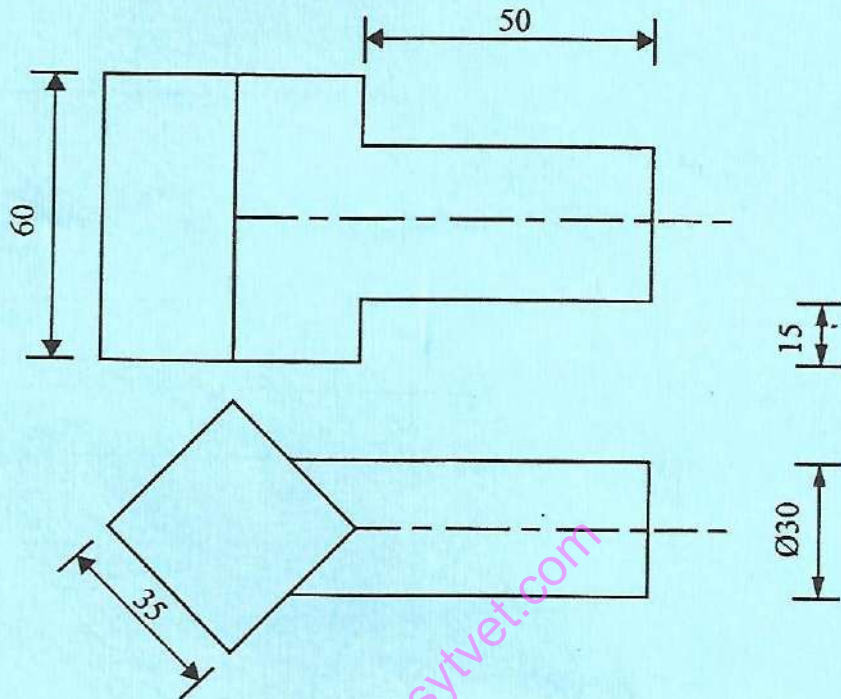

Fig. 2
6. Figure 2 shows two views of a cylinder intersecting a square prism at right angle. Draw the following: